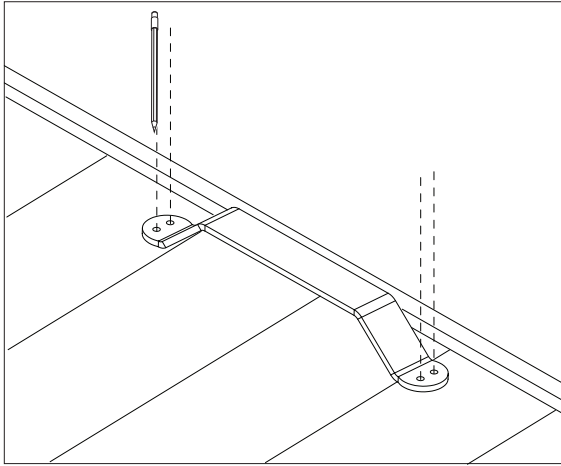

Figure 1
3. Lay the Door Pull(M.) on the surface of the wood, centering the pull on the pencil line. Using a pencil, mark the placement of the pull's screw holes on the door. Set the pull aside (Figure 1).